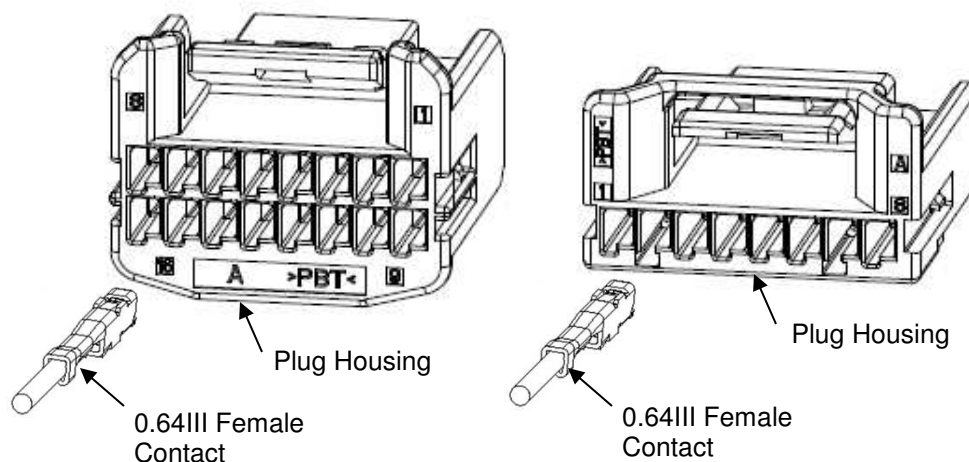

Fig. 4
- (3) Insert the contacts into the housing with same direction as shown in Fig. 4. The insertion is finished when the lance is locked and the contact cannot be inserted.